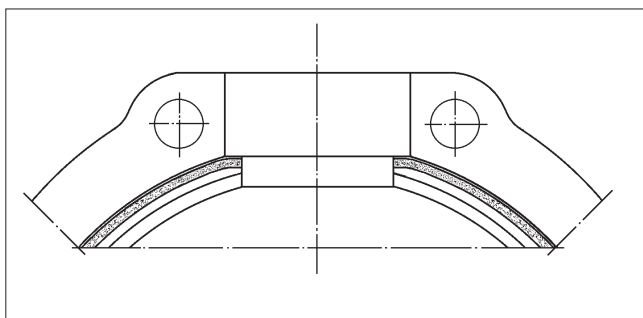

Fig. 15 Fitting the PTFE gasket strip
- Place the PTFE gasket into the outer circumference of the groove of the female body half. See Figure 15.